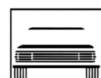

Figure 7. PDCA Cycle
**Act:** If the plan and its implementation worked, action will be taken to scale up the process improvement throughout the organization; if the plan did not return the expected results, then this step will identify the root causes and define the needed corrective actions (Figure 7).